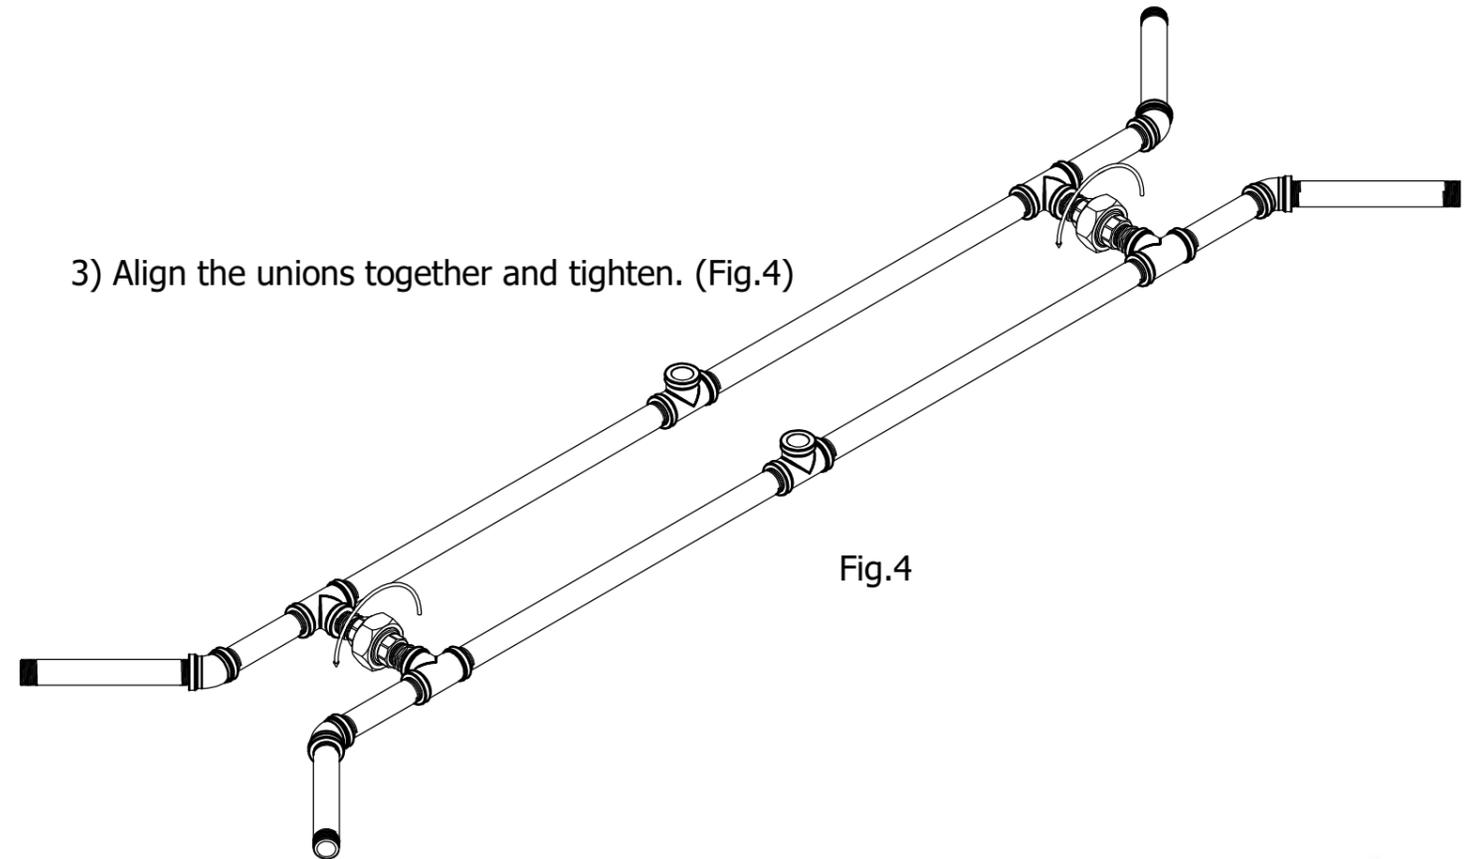

Fig.4
3) Align the unions together and tighten. (Fig.4)